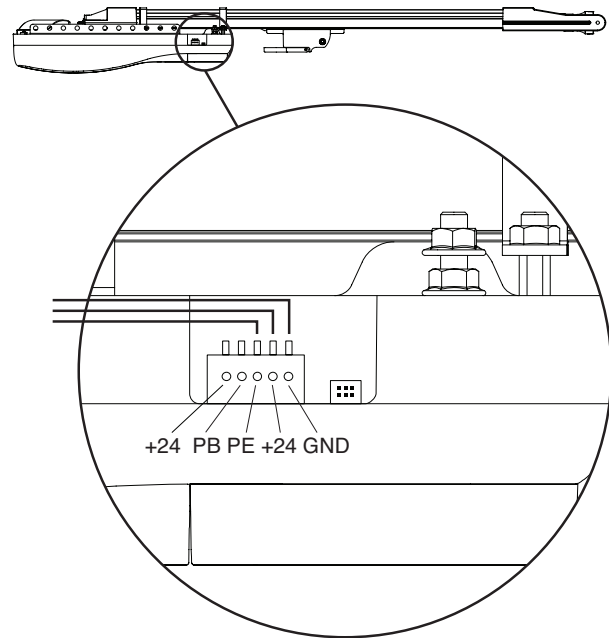

Fig. 19
- 1 Connect PE Beam cable to controller terminal block as per Fig. 19.